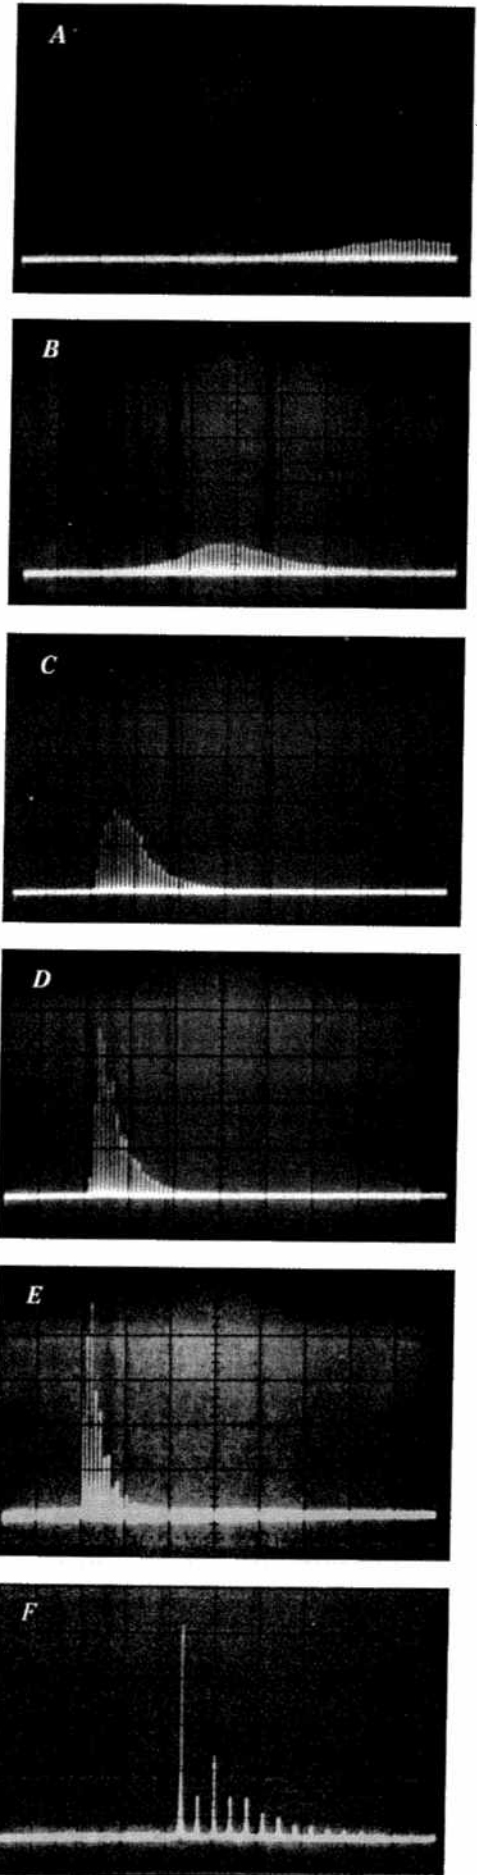

Fig. 12 – Same as Fig. 11 but with a different SWEEP setting.
16. Figures: Figures 11 and 12 are identical with the exception that in Figure 11 the SWEEP COARSE WIDTH is set to max CCW while in Fig. 12 it is set to midway. Adjust the centering knob as necessary.